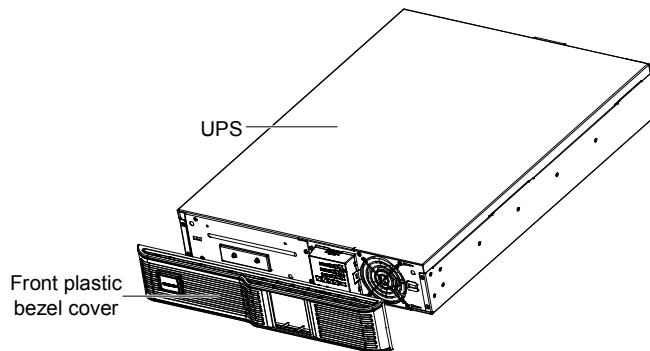

Figure 2-3 Removing the front plastic bezel cover
1. Remove the front plastic bezel cover gently, as shown in Figure 2-3.